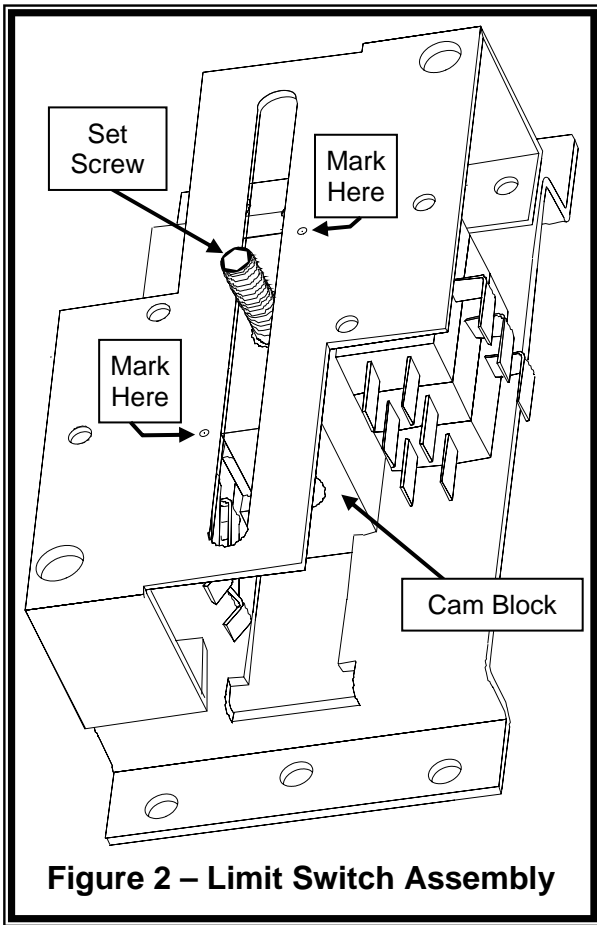

Figure 2 – Limit Switch Assembly
- The guide rod entering the cam block in the limit switch housing. **Refer to Figure 2.**
- The position of the limit switch set screw/cam block relative to the limit switch housing. **Refer to Figure 2.**
- (8) Loosen the set screw on the limit switch assembly with a 3/32" allen wrench. **Refer to Figure 2.**
- (9) Drop the guide rod to the bottom of the enclosure.
- (8) Connect the motor quick-disconnect connector.
(9) Align the guide rod based upon the markings from Step (5) and Figure 2 on Page 2. Tighten the set screw on the Limit Switch with a 3/32" allen wrench.
(10) Ensure the Limit Switch Collars are near the marked positions and install the Cotter pins in the Guide Rod.
- (11) Set the upper and lower limit switch collar positions based upon the markings from **Step (5)** and **Figure 2** on **Page 2**. Tighten the limit switch collars using a 3/32" allen wrench.